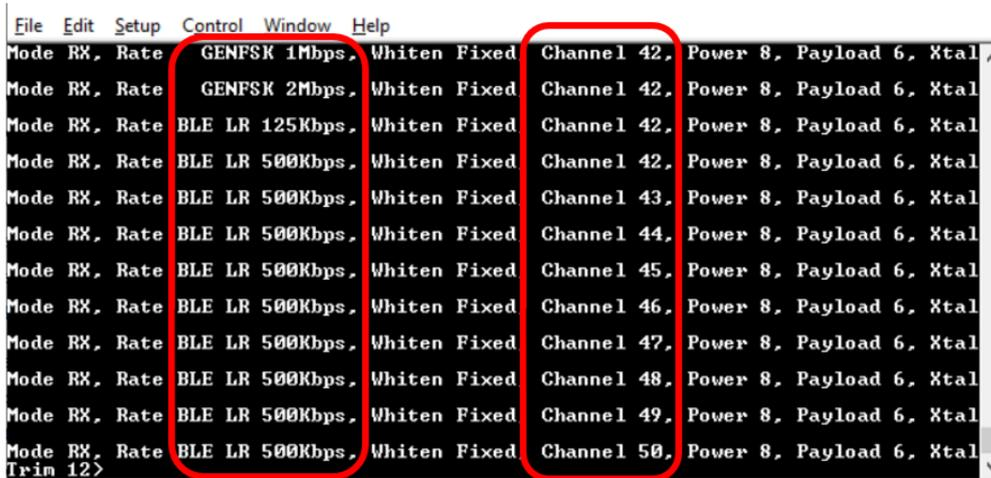

Figure 40. Example of the parameters change during the running continuous test application
- The application can change the operation or increase or decrease any parameter at any time when the continuous unmodulated test is running. This is done by typing the letter of the parameter. An example is shown in Figure 40.